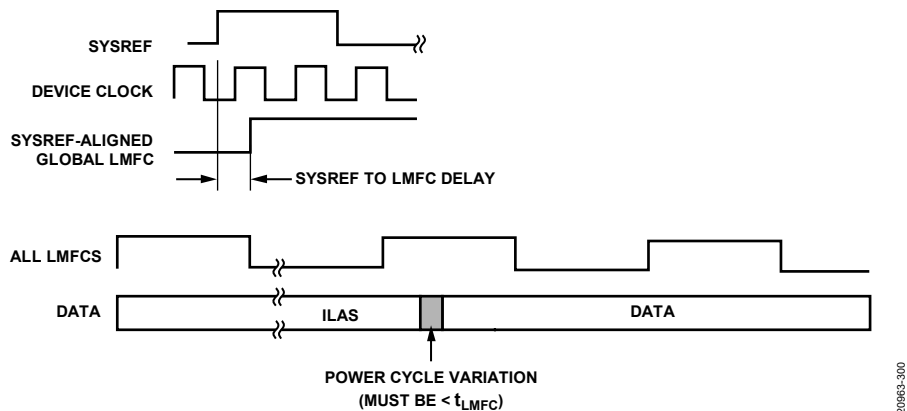

Figure 70. SYSREF± and LMFC
The JESD204B protocol organizes data samples into octets, frames, and multiframe, as described in the Transport Layer section. The LMFC is synchronous with the beginnings of these multiframe. In Subclass 1 operation, the SYSREF± signal is used to synchronize the LMFCs for each device in a link or across multiple links (within the AD9094, SYSREF± also synchronizes the internal sample dividers) (see Figure 70). The JESD204B receiver uses the multiframe boundaries and buffering to achieve consistent latency across lanes (or even multiple devices), and to achieve a fixed latency between power cycles and link reset conditions.
- The total latency variation across all lanes, links, and devices must be  $\leq 1$  LMFC ( $t_{LMFC}$ ) period (see Figure 70). This total latency includes both variable delays and the variation in fixed delays from lane to lane, link to link, and device to device in the system.